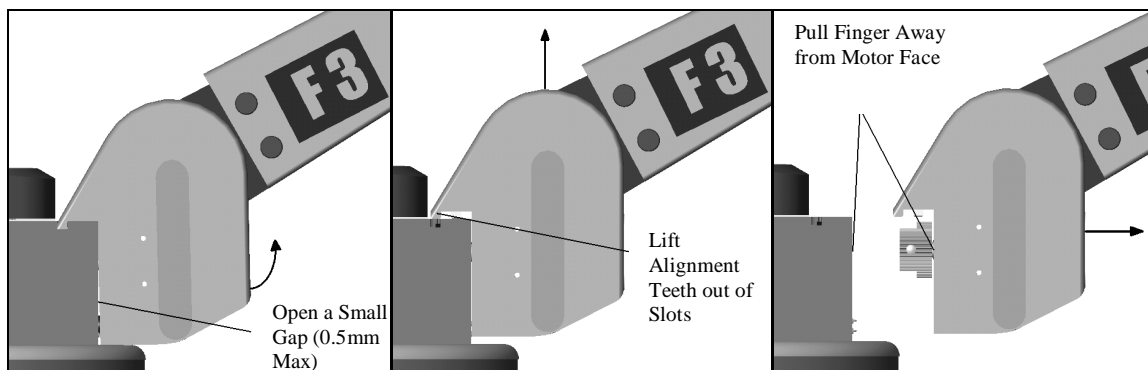

Figure 13 - Removing the Fingers for Maintenance
4. Gently tilt the finger slightly forward and lift the alignment “teeth” out of their slots as shown in Figure 13. If the joint-torque sensor option is installed, BE CAREFUL not to damage the gold-plated electrical contact pins when disengaging the teeth.